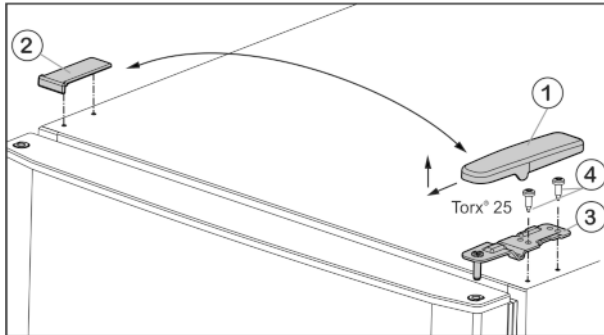

Fig. 4
- ▶ Pull off the cover Fig. 4 (1) forwards and upwards.
- ▶ Lift off the cover Fig. 4 (2).
- ▶ Unscrew the upper turn hinge Fig. 4 (3) (2x Torx® 25) Fig. 4 (4) and lift it off.
- ▶ Insert the upper turn hinge Fig. 4 (3) in the door on the new hinge side.
- ▶ Screw in the upper bearing block **tightly (with 4 Nm)** (2 x Torx® 25) Fig. 4 (4). Use a cordless screwdriver if necessary.
- ▶ Fit the cover Fig. 4 (1) on the opposite side by sliding it rearwards and latching it into place.
- ▶ Press the cover Fig. 4 (2) on the opposite side down into place until it latches.